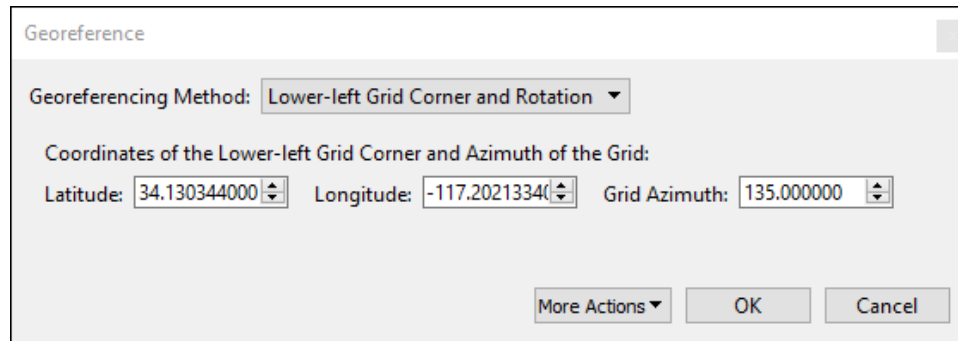

Figure 3. The Georeference dialog box
- Click the *Edit* button to open the Georeference dialog box (Figure 3) where you can edit the geo-referencing data.